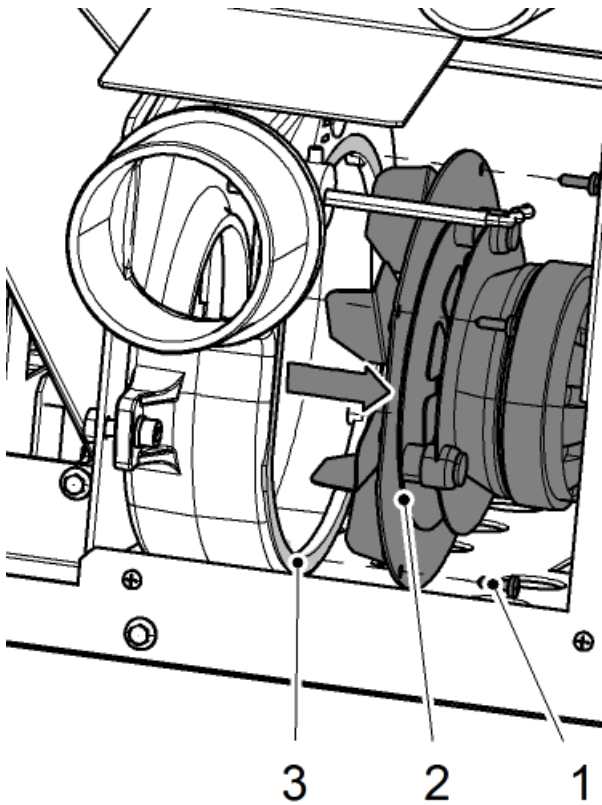

Figure 3: Induced draught fan
- This housing is made accessible for cleaning by undoing the 4 nuts shown in Figure 3. (See arrows).